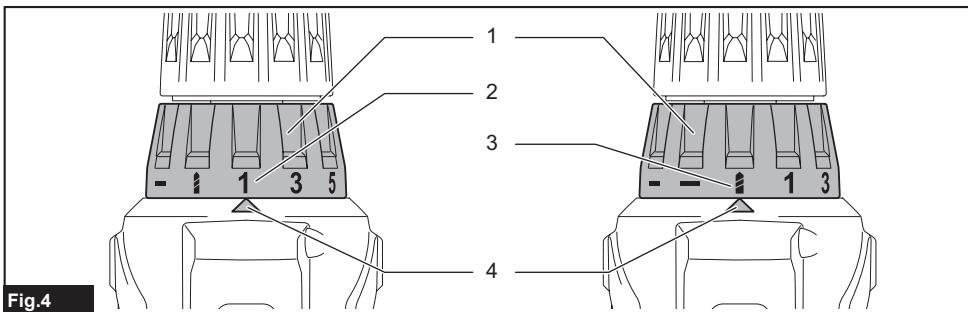

Fig.4
► Fig.4: 1. Adjusting ring 2. Graduation 3. marking 4. Arrow